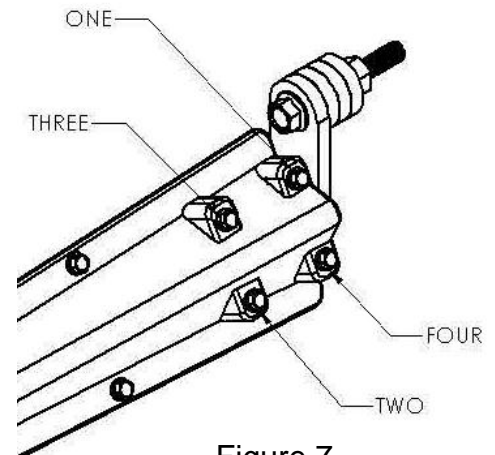
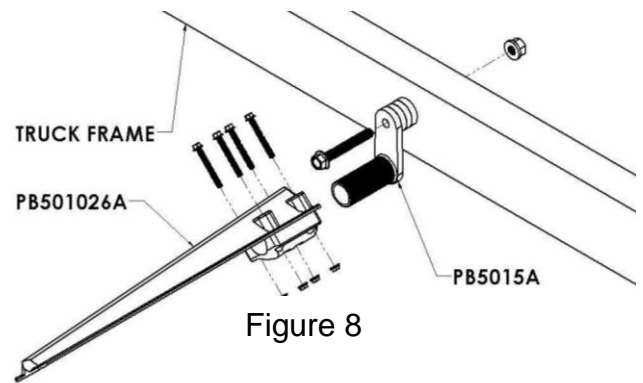

Figure 7
Figure 8
**TIP: Do not completely tighten one side of the backing block before moving to the other side. Alternate tightening bolts as pictured in Figure 8. Make sure to only tighten halfway and then repeat the pattern in Figure 7 until backing block is flush against the bracket (PB501026).**
- A. Once the brackets are placed in position with the fender, tighten the 5/8" x 4-1/2" bolts that go through the PB5015 steel swivel to attach the swivel securely to the frame (Figure 8). **Recommended torque is 160-170 ft-lbs.**